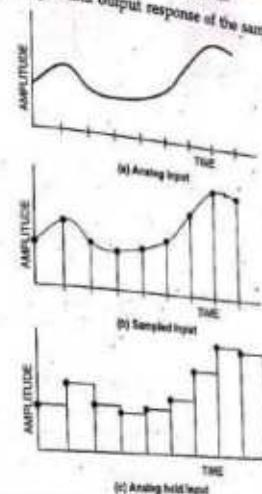

Fig. 6.5.1 Input and output response of sample and hold circuit
- The Fig. 6.5.1 shows input and output response of the sample and hold circuit.